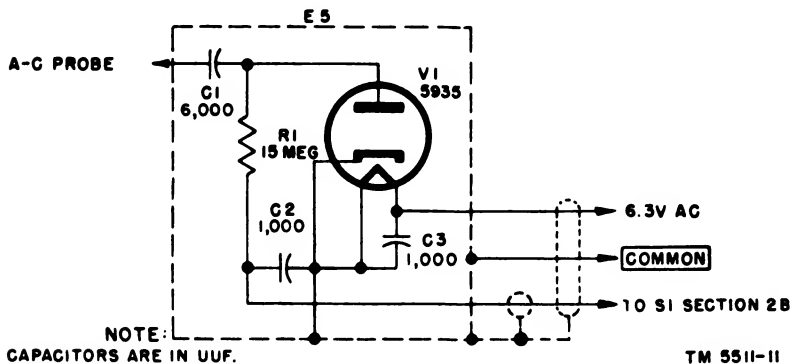

Figure 11. A-c probe, schematic diagram.
*e.* **A-C PROBE.** The a-c probe (figs. 11, 20, and 21) consists of a diode mounted in a holder. In addition, there is a coupling capacitor, a coupling resistor, and bypass capacitors. The diode acts as a rectifier which changes the applied ac to dc. The dc is then applied to the
a. The a-c probe (figs. 11, 20, and 21) consists of a diode mounted in a special holder to enable the probe to make accurate measurements at high frequencies. The a-c probe (fig. 11) consists of a diode (V1) connected in the circuit as a shunt half-wave rectifier, an input coupling capacitor (C1), an input resistor (R1), and bypass capacitors (C2 and C3). Because of the high value of the input resistor (15 megohms) and the input capacitor (6,000 uuf), the diode is essentially a peak indicating rectifier. The scale of the instrument is calibrated to read rms volts for a sine wave input. For nonsinusoidal input voltages, the instrument reads .707 of the peak value. Diode V2 (6AL5) acts as a balancing diode and is used to buck out the contact potential of V1 with no input applied